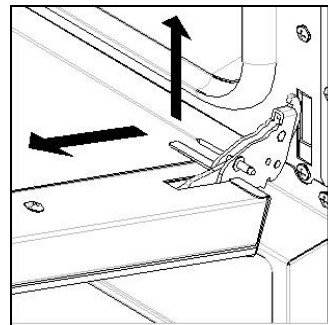

Fig. 7
- lift the door gently and withdraw it (Fig. 7);